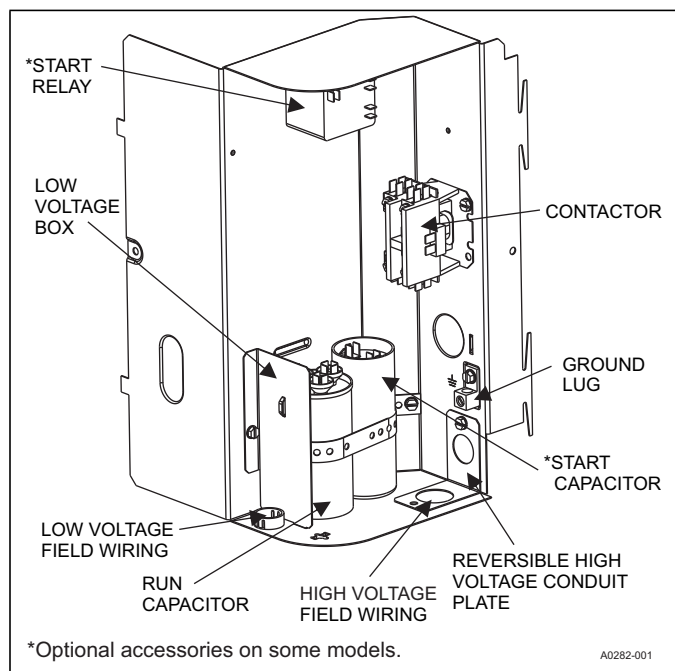
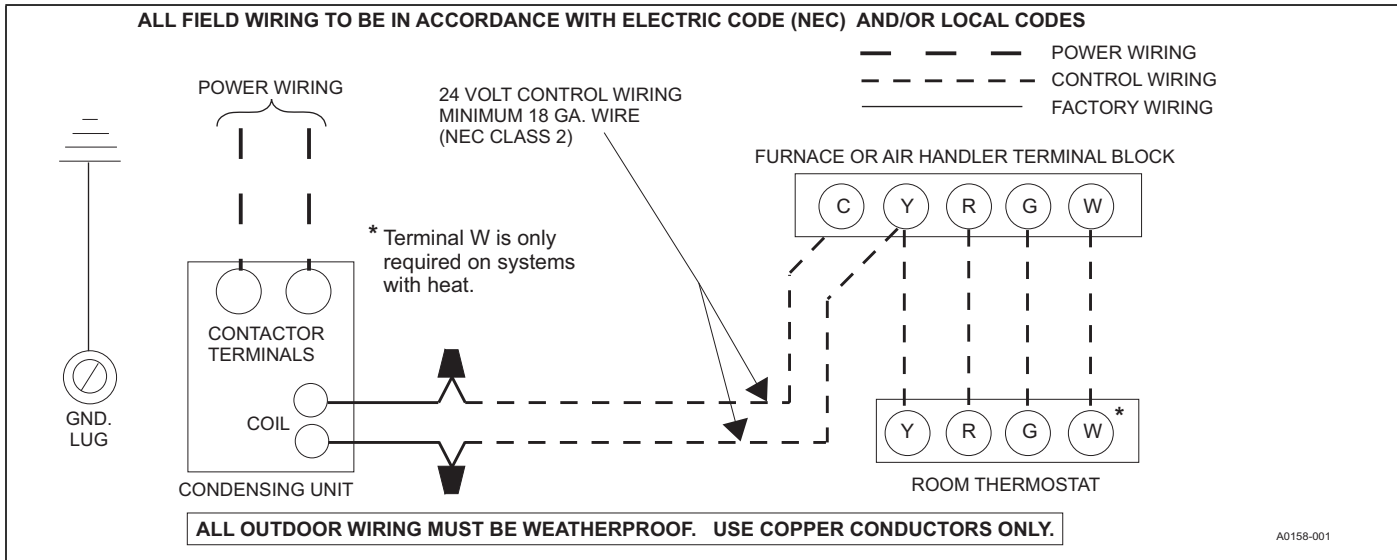

FIGURE 10: Outdoor Unit Control Box (Single Phase - Smaller Base)
FIGURE 12: Typical Field Wiring (Air Handler / Electrical Heat) (Single-Phase)
1. Route low voltage wiring into bottom of control box as shown in Figure 10 or 11. Make low voltage wiring connections inside the low voltage box per Figures 12 - 14.